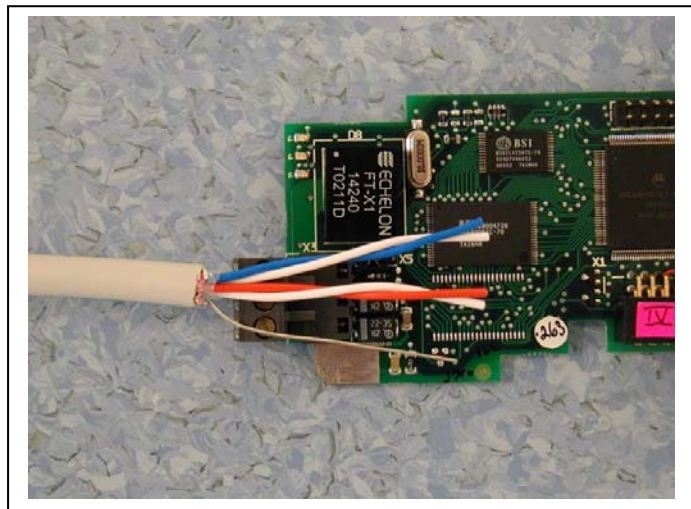
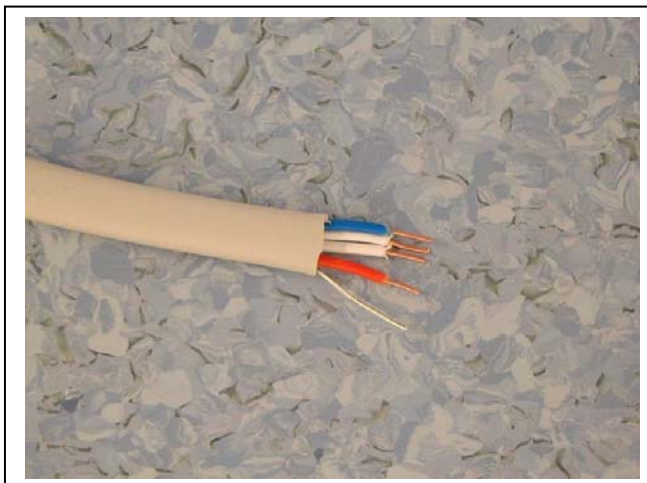

Figure 7.
Figure 8.
- 2 Leave no more than 7 mm of the data cable outside the terminal block (Figure 7) and strip the data cables at about 5 mm to fit in the terminals (Figure 8).